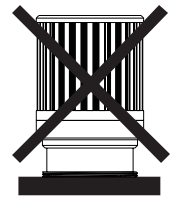

Fig1
- **When the lamp is lit, it is prohibited to cover the light outlet with any obstacles (Fig 1)**